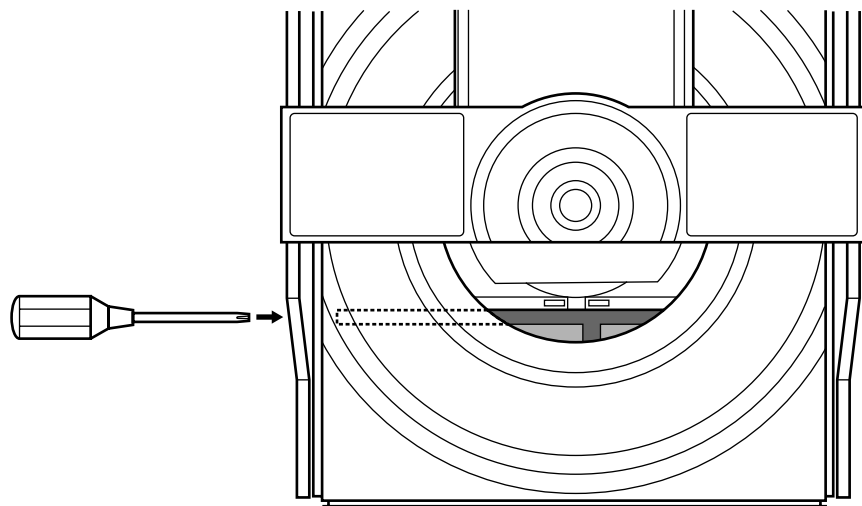

Fig. 1
1. Push left end of the lever under the tray toward the right by using screwdriver, move the tray by pulling it forward. (Fig. 1)